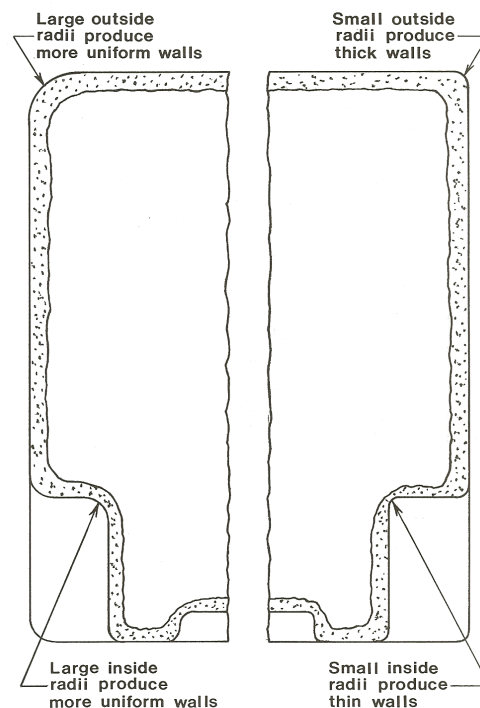

Figure 13 Large corner radii improve uniform heating of the mold resulting in less variation in wall thickness
3. Large corner radii heat up to molding temperatures more uniformly than corners with small radii. The cross-section of the refuse container body shown in Fig. 13 illustrates this phenomenon. The small outside corners to the right accumulate more material than the corners with the larger radii on the left. These small outside corners on the mold are actually being heated from two sides and they quickly come up to molding temperature. The corners of the mold with the large radii come up to molding temperature at closer to the same time as the surrounding flat surfaces of the mold.